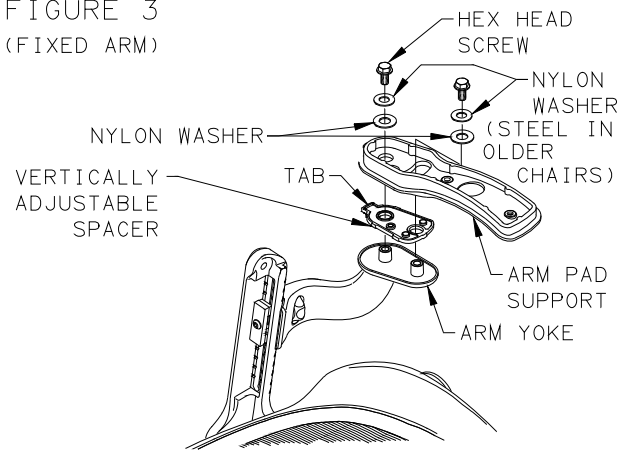

FIGURE 4
-FOR VERTICALLY ADJUSTABLE ARM, USING 13MM SOCKET AND RATCHET WRENCH, REMOVE AND SAVE HEX HEAD SCREWS AND (4) NYLON WASHERS, SECURING ARM PAD SUPPORT TO ARM YOKE. REMOVE AND SET ASIDE ARM PAD SUPPORT AND VERTICALLY ADJUSTABLE SPACER. NOTE: OLDER CHAIRS MAY HAVE (2) STEEL AND (2) NYLON WASHERS. REMOVE AND SET ASIDE. SEE FIGURE 4.